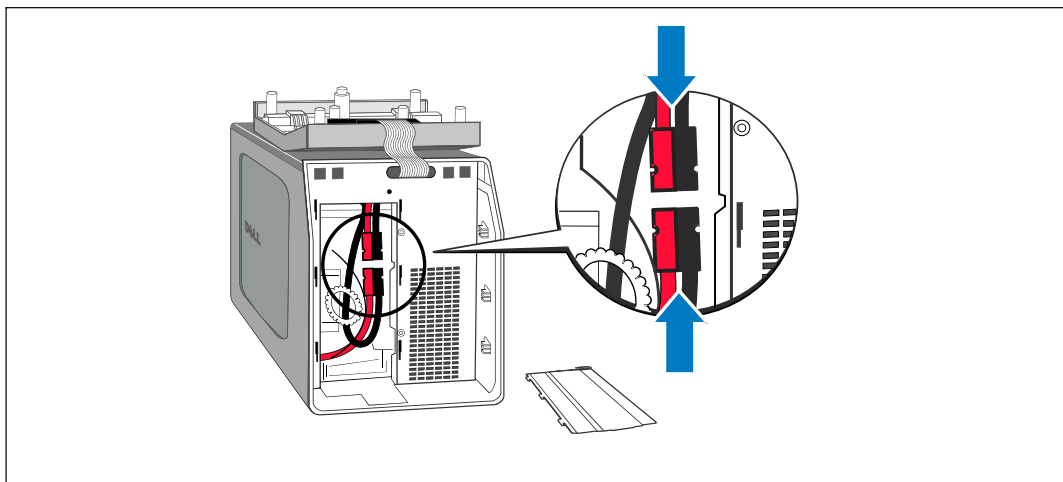

Figure 12. Connecting the Internal Battery Connector
- 4 Connect the internal battery connector (see Figure 12).